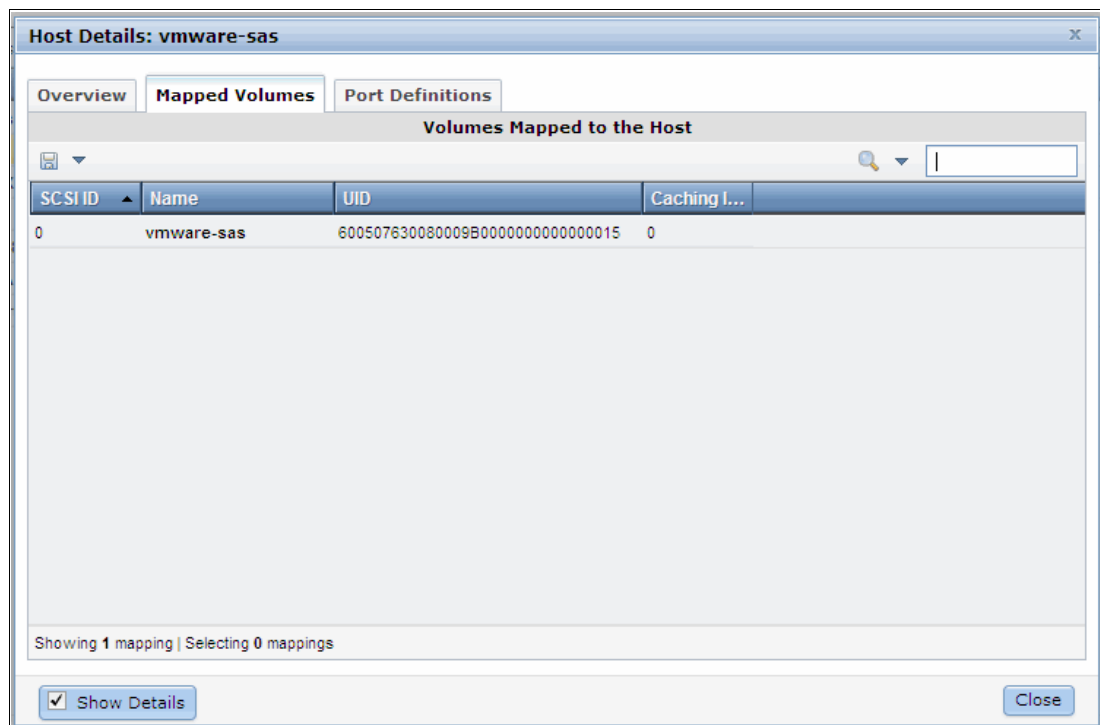

Figure 5-96 Mapped volumes to ESX SAS host
2. Browse to the **Mapped Volumes** tab, as shown in Figure 5-96.